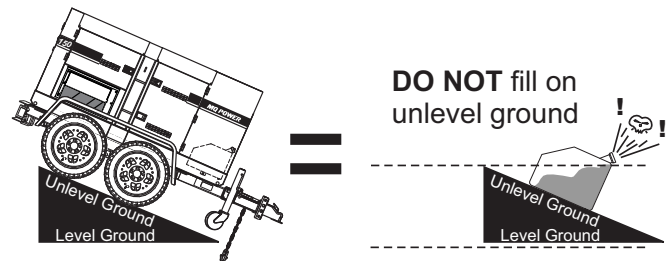

Figure 37. Only Fill On Level Ground
1. **Level Tank** — Make sure the fuel tank is level with the ground. Failure to do so will cause fuel to spill from the tank before reaching full capacity (Figure 37).